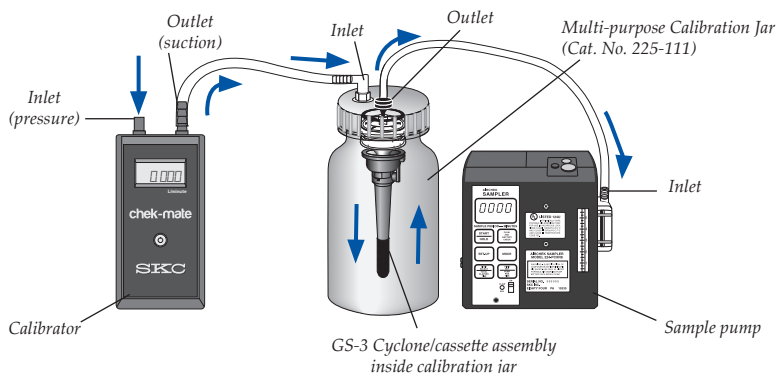

Figure 3.
2. Place cyclone/cassette assembly into an airtight calibration jar that contains an inlet and outlet (Cat. No. 225-111, Figure 3).